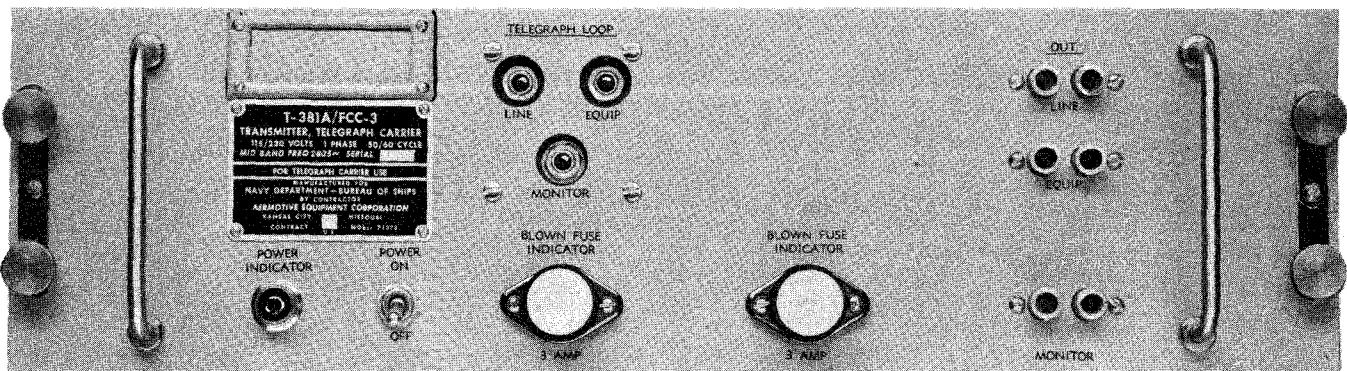

Figure 4-1. Telegraph Carrier Transmitters T-371A/FCC-3 through T-382A/FCC-3, Identification of Controls
a. GENERAL. - Refer to figure 4-1 for the position of the various front panel operating controls and their functions. The front panel jacks are for signal patching and test purposes. TELEGRAPH LOOP jacks are provided for patching and monitoring purposes. The telegraph carrier transmitters operate as the transmitting part of the Telegraph Carrier Terminal AN/FCC-3A, as shown in the block diagram of figures 2-1 and 2-2. Table 1-3 gives the carrier frequencies of the transmitters. All transmitters, regardless of frequency channel, are the same in wiring. The units differ in the frequency determining components as listed in table 1-4. Normally, the equipment does not require adjustment during operation and, therefore, does not have operation controls on the front panel. The rear chassis controls are maintenance adjustments and remain in correct adjustment over long periods of time. Refer to Section 3 and Section 7 for making minor corrections with the chassis controls.